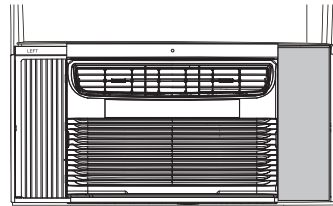

FIG. 24
3. Peel off the protecting film behind the insulation panel and stick the panel on the side curtain, as shown (FIG.24)